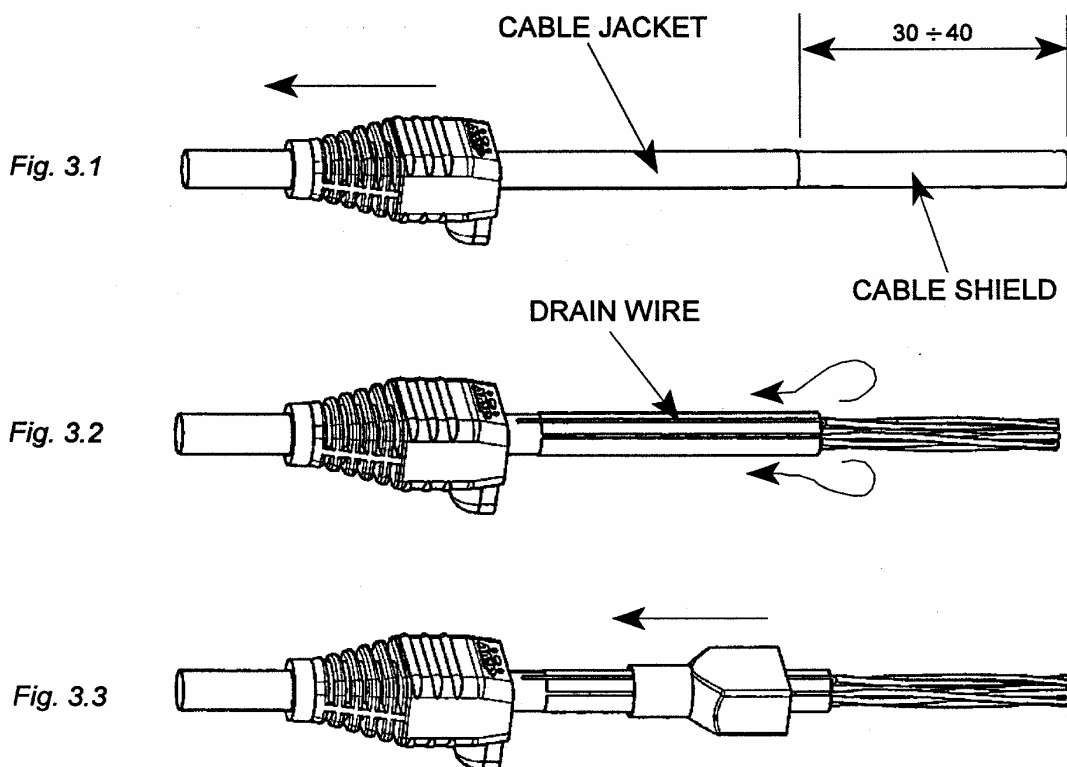

Figure 3: Cable Preparation
#### 3.2.1. Cable Preparation (Figure 3)
*The color coding according to T568A and T568B is transcribed in Figure 3 as a reference.*